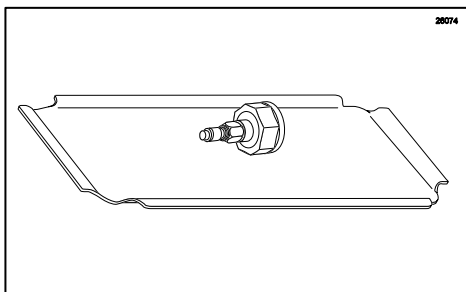

Figure 63
12. Remove the Adapter from the sanitizer solution and place on a sanitary tray to air dry. (See Figure 63.)